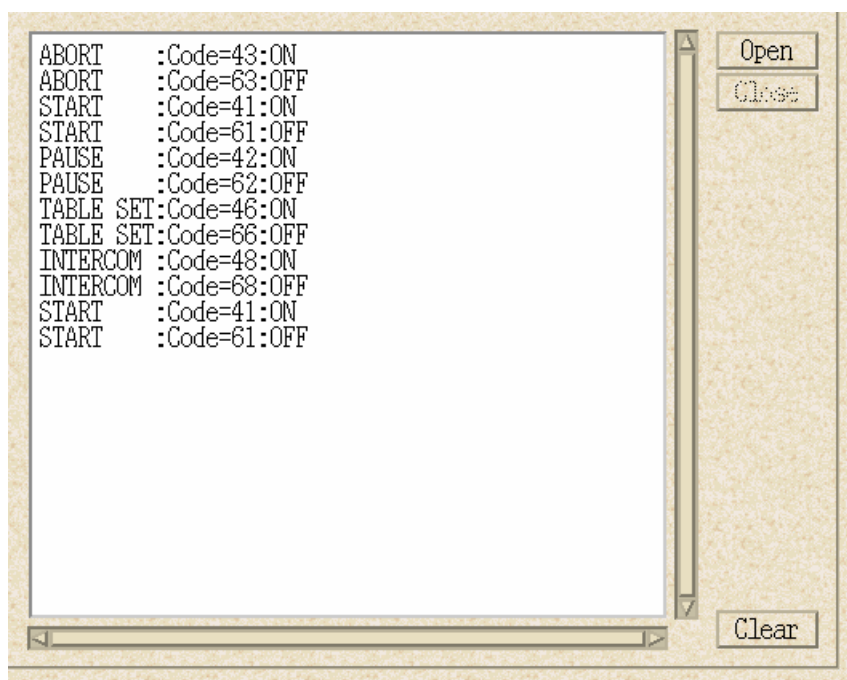

Fig. 4.2-44 An Example of Panel Switch Check Result Display
- (6) Pressing any panel switch displays the name and code No. of the switch thus pressed (Fig. 4.2-44).